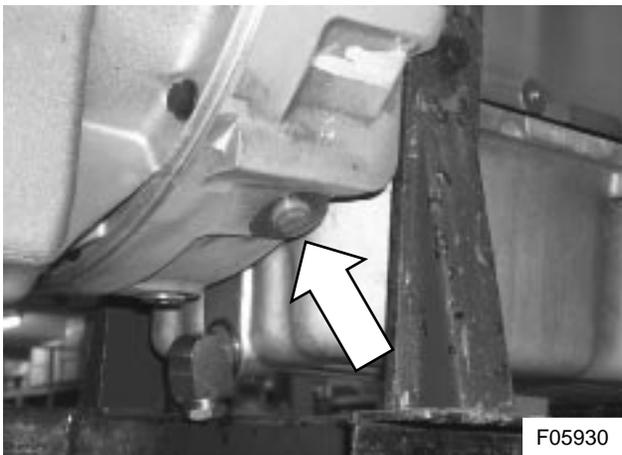

Figure 10: Location of ring gear plug
7) Remove the plug giving access to the starter motor ring gear (see Figure 10).